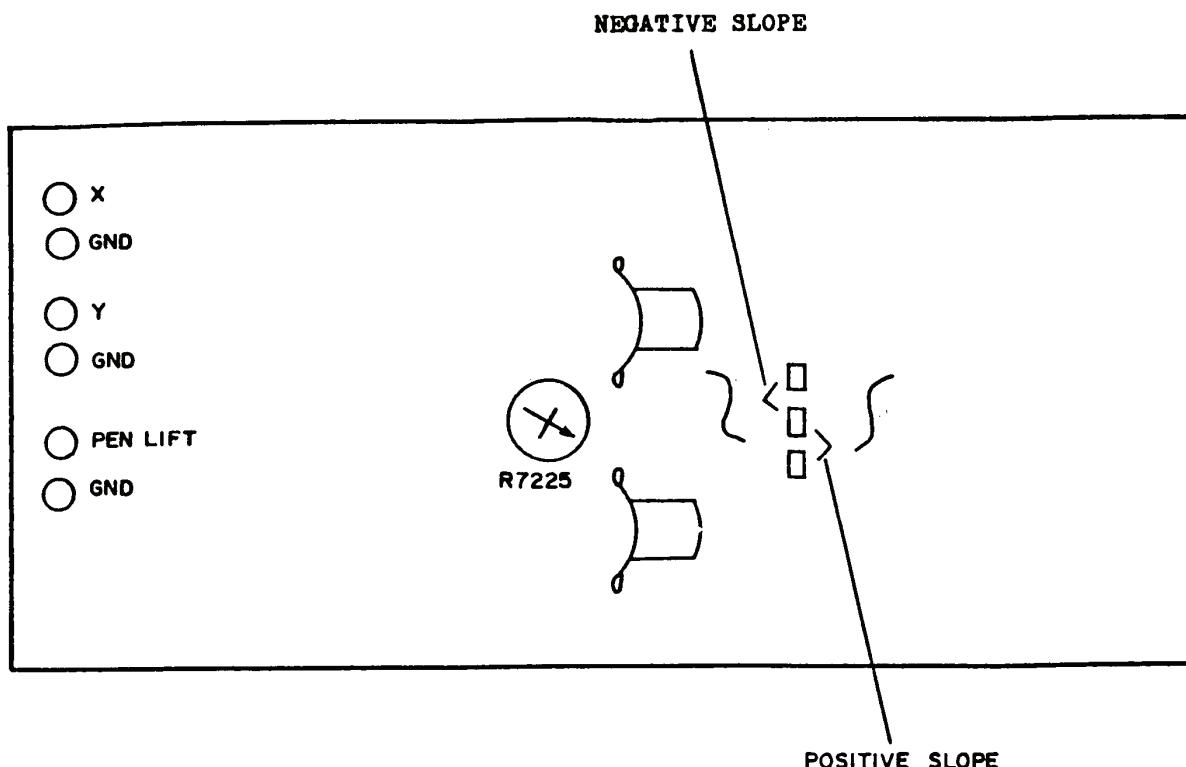

Figure 4. X-Y Output module - top view.
- (1) Place TI terminal connection link on negative slope terminal as shown in figure 4.
- (2) Set **REF LOSS (dB)** (**SENSITIVITY (dB)**) switch to **0 dB** and **DISTANCE** dial to **000**.
- (3) Connect termination to **CABLE** input. Adjust **0 dB SET** control for a 4 division display on TI.
- (4) Connect multimeter positive lead to **PEN LIFT** red terminal and common lead to **PEN LIFT** black terminal. Multimeter will indicate approximately +5 V dc.
- (5) Lift **RECORD/CAMERA** switch to **RECORD** and release while observing crt sweep and multimeter in indications. Multimeter will indicate 0 ± 0.5 V at start of sweep and approximately +5 V at end of sweep.
- (6) Disconnect link from negative slope and connect to positive slope as shown in figure 4. Multimeter will indicate approximately -0.5 V.
(7) Repeat (5) above while observing beginning and ending indications of +4 V or more and -0.5 V or less respectively.
(8) Move multimeter connections to TI Y terminals.
(9) Adjust **ZERO REF SET** control fully cw.
(10) Lift and hold **RECORD/CAMERA** switch to **RECORD** and adjust **POSITION** control for a 0.0 V indication on multimeter.
(11) Adjust **ZERO REF SET** slowly ccw. If multimeter does not rise to approximately +0.4 V, perform **b** below. Release **RECORD/CAMERA** switch.
(12) Move multimeter connections to TI X terminals and lift **RECORD/CAMERA** switch to **RECORD**. Multimeter will indicate between 0 and 1 V as dot moves across crt screen. Release **RECORD/CAMERA** switch.
b. Adjustments. Lift **RECORD/CAMERA** switch to **RECORD** while adjusting R7225 (fig. 4) for a +0.4 V indication on multimeter (R).